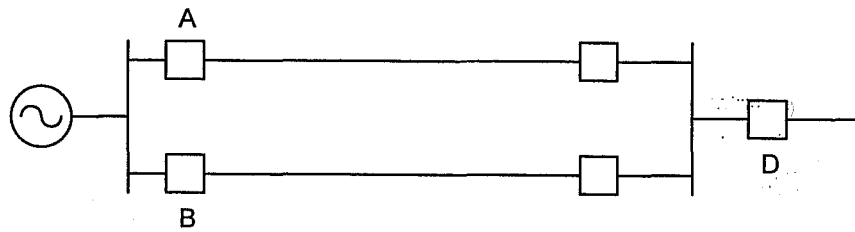

Figure Q7
- B A radial distribution system is shown in figure Q7. The pick-up value of the over current relay at D is set at 2.5 A and time lever is set at 0.1 s. Maximum and minimum fault currents at the relay location D are 3000 A and 1000 A respectively. Current transformer ratio at D is 500/5